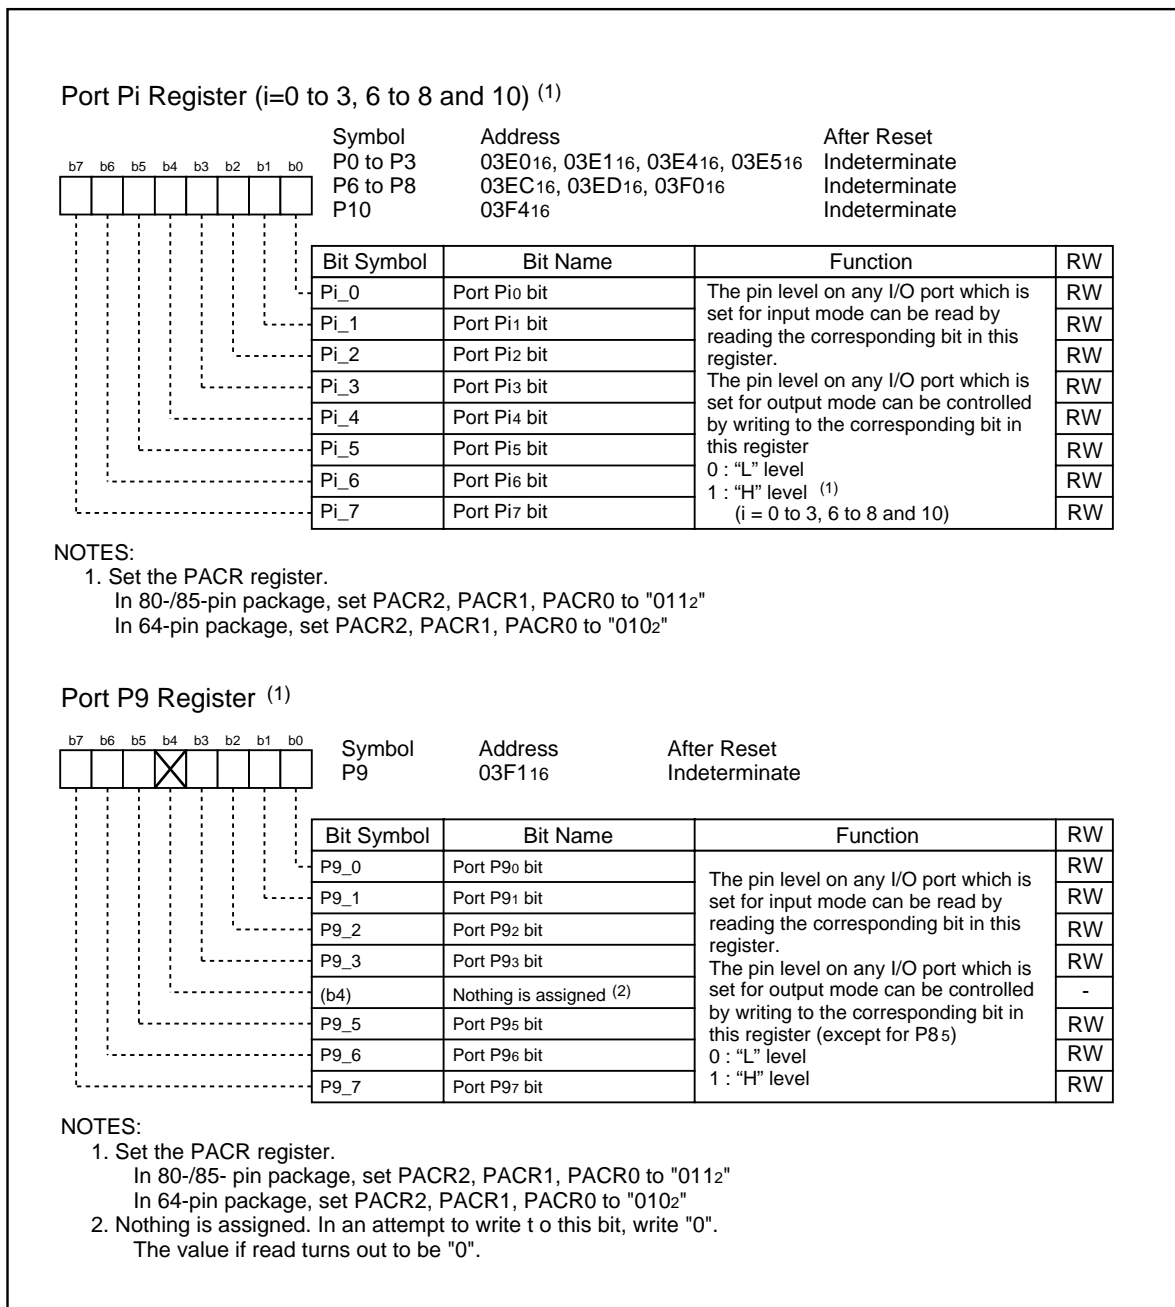

Figure 17.7 P0 to P3 and P6 to P10 Registers
**Figure 17.7** shows the Pi registers.